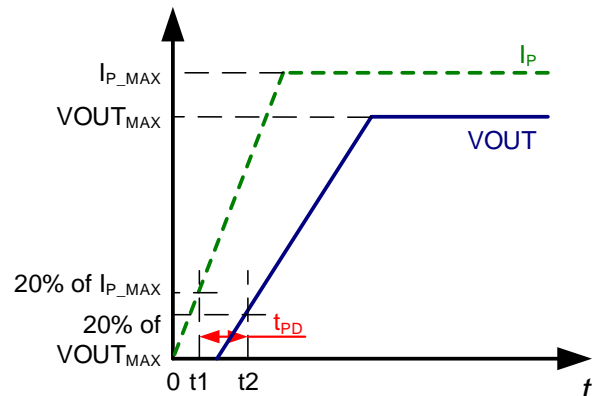

Figure 6: Propagation Delay (t_{PD})
2. t_2 : V_{OUT} reaches 20% of V_{OUT_MAX} (see Figure 6).